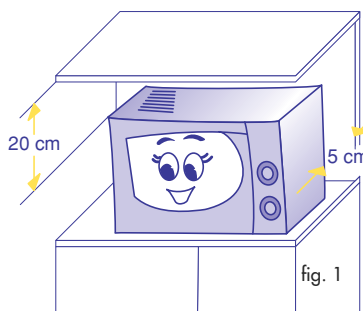

fig. 1
- 1) After having removed the oven from its box, check to make certain that the turntable spindle (D) is correctly fitted into its housing. Place the turntable support (G) in the middle of the cooking chamber and set the turntable (F) on top of it. The spindle (D) must be inserted in the related turntable housing.
- 4) **After having placed the oven on its work level, make sure that there is still a free space of at least 5 cm. between the oven's surfaces and the side as well as back walls, and a free space of at least 20 cm. above the oven (see Fig. 1). Also check to make sure the feed cord is not touching the appliance's rear wall, because the wall itself can get very hot while the grill is being used.**